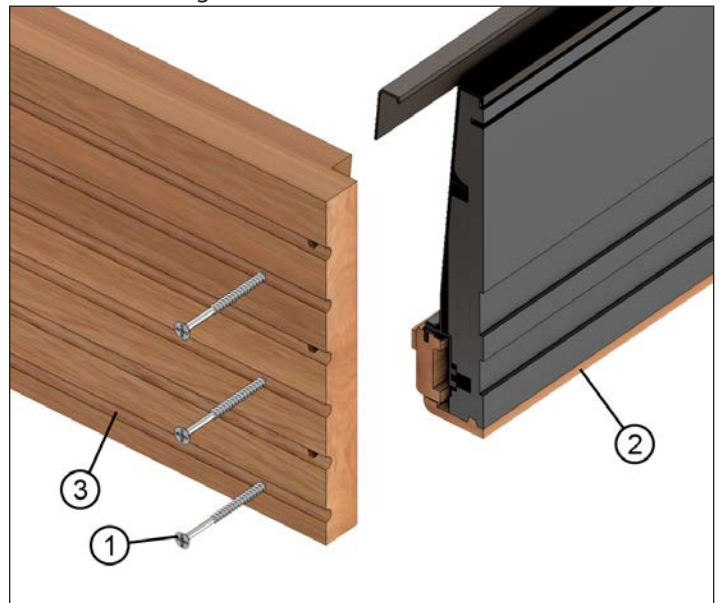

Figure 3
5. Attach the oak adjustable sill, hydro sill, wood sill, or wood sill with interlock using the predrilled holes. Fasten screws through side jamb and into sill. Apply screws through Jamb into the sill. See figure 3.